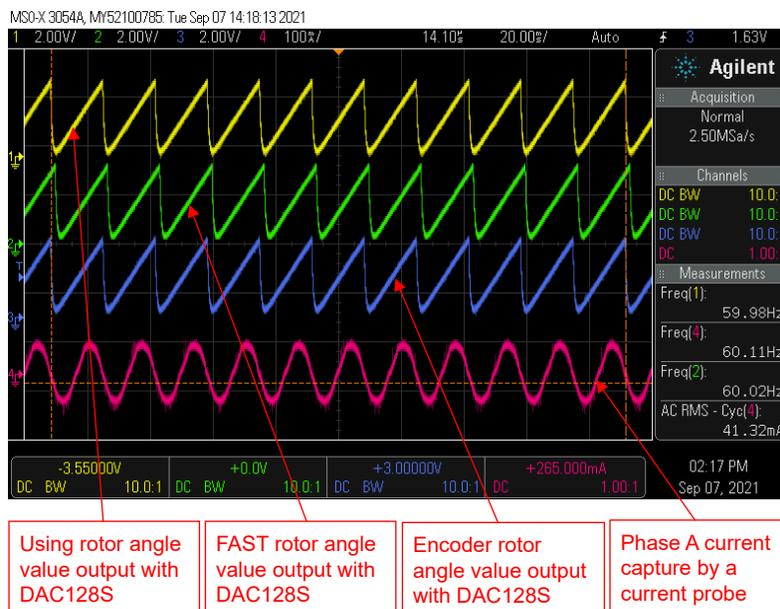

**Figure 3-52. Build Level 4: Motor Rotor Angle with FAST and Hall Sensor, Phase Current Waveforms at Reversal Rotation**
- The estimated rotor angles from FAST and eSMO are shown in Figure 3-52. The motor is running with FAST at **reversal** rotation by setting `motorVars_M1.speedRef_Hz` to a **negative** value.
Use DAC128S085EVM with an oscilloscope to monitor rotor angle of the motor from the FAST estimator and Hall sensor, and a phase current of the motor as shown in Figure 3-52 when the motor is running at reversal rotation by setting `motorVars_M1.speedRef_Hz` to a negative reference value.